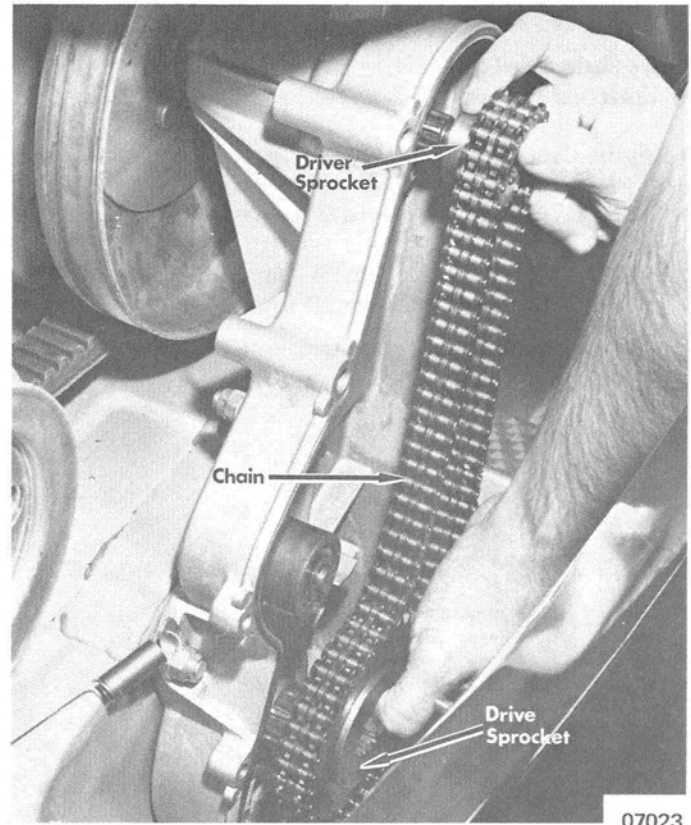

Figure 5. Removing/Replacing Driver Sprocket, Drive Sprocket and Chain
5. Remove driver sprocket, drive sprocket and chain from chaincase as an assembly. (Figure 5)
NOTE: Shoulder on driver sprocket **MUST** be toward driven sheave. (Figure 5)